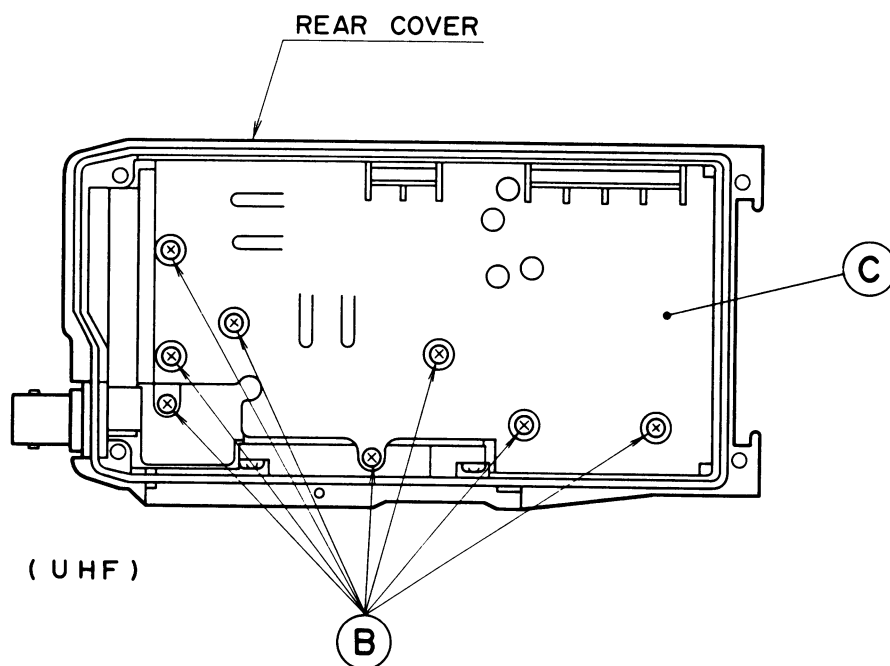

FIGURE 16 - DISASSEMBLY STEP 2
To Remove the Radio Board, use the Phillips-head screwdriver and remove the two (8) screws at (B). Remove the RF shield cover at (C) (See Figure 16).